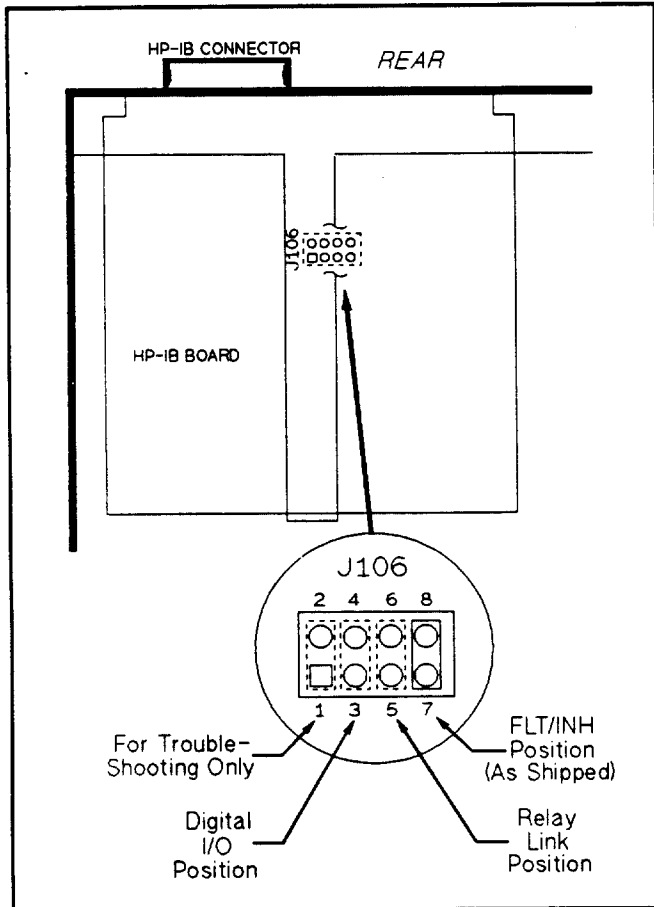

Figure D-5. Port Configuration Jumper
7. Refer to Figure D-5 and use needle-nose pliers to move the jumper to either the Relay Link or Digital I/O position.